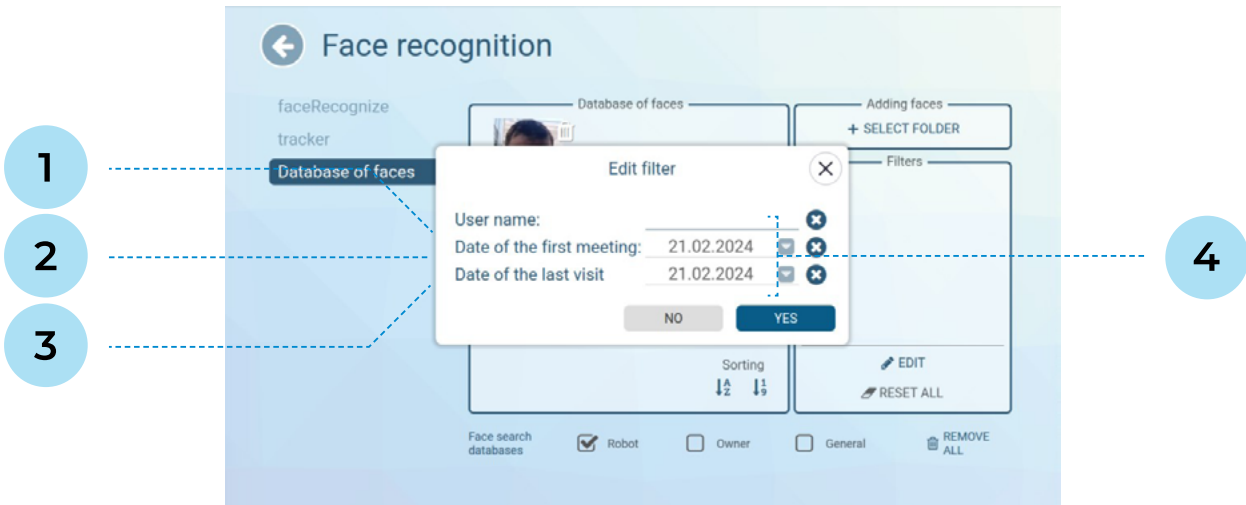

Fig. 6.18. Facial filter editing in the database
6. **Edit** — button for editing filters (Fig. 6.18).